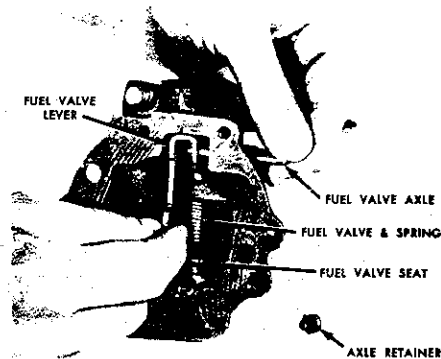

FIG. 9
4. Place a new rubber seat on fuel valve stem. Fig. 9.
7. Insert tip of fuel valve lever into slot in valve stem. Install axle and axle retainer. Fig. 9.